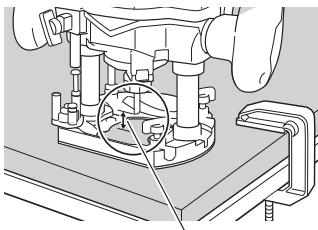

Fig. 30
- (1) As shown in Fig. 30, remove the bit from the work pieces and draw the switch trigger. Do not start cutting operation until the bit has reached full rotating speed.